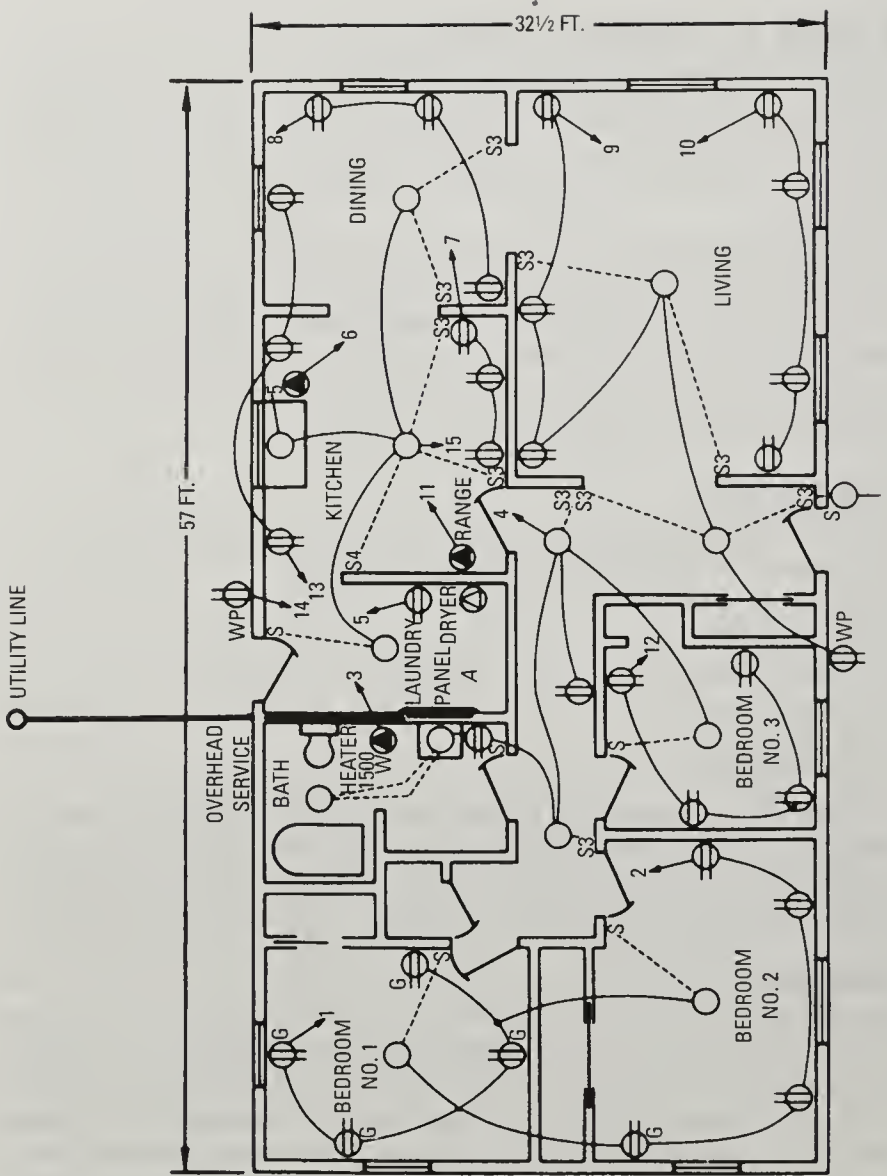
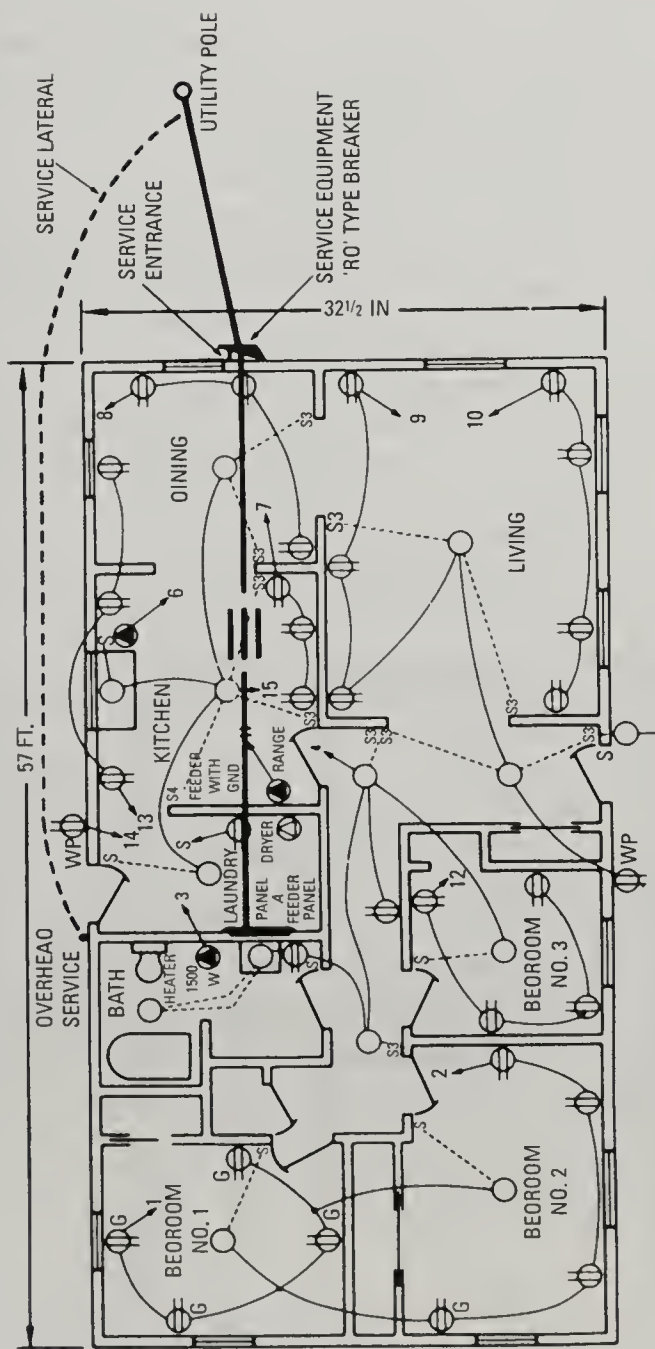

Figure 8-1 Service-entrance location.
Figure 8-2 Two methods of installing service when the utility pole location does not fit equipment location.
Figure 8-1 shows a typical layout for wiring the home shown in Figure 3-3, part A, on page 52. These drawings will be used in this summary as well as the load calculations used in Chapter 3 of this book. Not only will the minimum *Code* requirements be used; there will also be suggestions for a more adequate wiring job and additions in the future for additional usage.
2. A utility must supply service to the residence; therefore, its requirements must be considered as to where power lines are located and related issues. Thus, one must consult with the utility as to location. If the house is supplied by a service lateral (underground service), the problem eases to quite a degree. The service equipment is at a very good point if the utility can serve from the point shown in Figure 8-1.
Take a look at Figure 8-2. Here the utility line is at the end of the home, which leaves us with several alternatives:
2. A service lateral may be run, as shown by the dashed lines in Figure 8-2.
Most dwellings have the branch-circuit overcurrent devices in the service equipment enclosure, as would be the case in Figure 8-1. In Figure 8-2 the service equipment is outdoors at the end of the house, so the conductors to the feeder panel will be feeders and consist of two phase conductors, one neutral conductor, and one green or bare equipment-grounding conductor, sized according to *Table 250.122* of the *NEC* (reproduced here as *Table 8-3*).